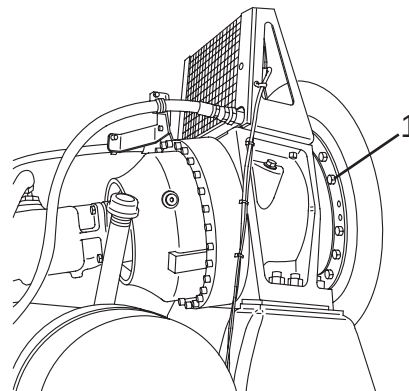

Figure 119
8. Check the drum flange bolt (Figure 119, Item 1) torque. (Refer to the Service Manual for torque valves.) If a bolt turns during this check, that bolt must be removed and replaced with a new Grade 8 bolt.